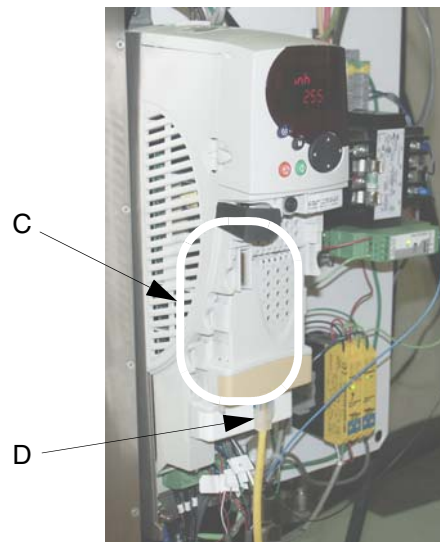

FIG. 12
Use a CAT 5 Ethernet Cable (D) to connect the VFD Ethernet Module (C) to the PC. See FIG. 12.